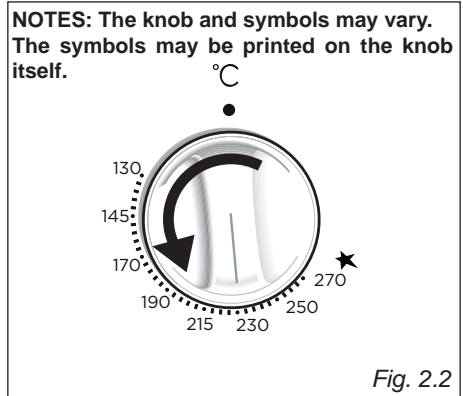

Fig. 2.2
The numbers printed on the control panel or on the knob (fig. 2.2) indicate the increasing oven temperature value (see table below). To regulate the temperature, set the knob to the chosen number. The “FAN ASSISTED GAS OVEN” column refers to the oven burner used in combination with the fan motor (forced convection cooking: only for the “fan assisted” models - models having also the position ), while the “GAS OVEN” column refers to the oven burner used in the normal convection mode (without fan motor). The ★ symbol close to the maximum position indicates that the electric ignition is incorporated into the knob (activated by the knob itself).
- 2 – Lightly press and turn the thermostat knob anti-clockwise to the maximum position  (fig. 2.2). Press the knob firmly until the burner lights.